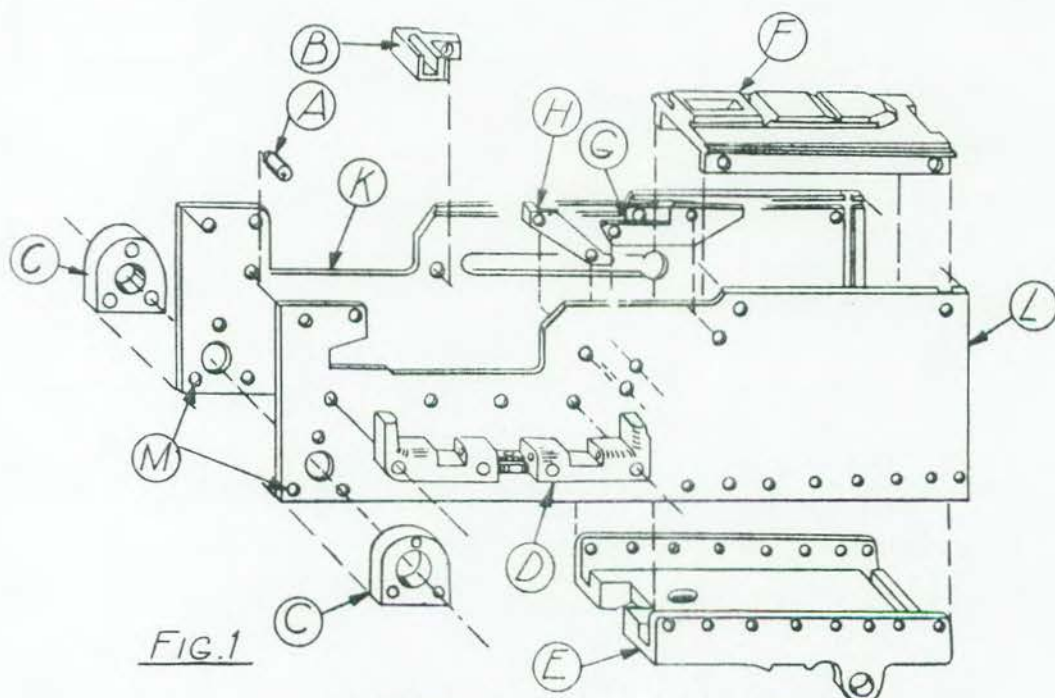

FIG. 1
- (29) ALL PARTS OF THE CASING ARE RIVETED TOGETHER AND MAY BE REPLACED IF NECESSARY. THE PROPER PLACING OF PARTS IS SEEN IN FIG. 1. BOTTOM PLATE (E) IS REMOVED BY TAKING OUT 8 RIVETS ON EACH SIDE. TOP PLATE (F) IS HELD IN PLACE BY ONE LONG RIVET THROUGH FRONT END AND ONE RIVET ON EACH SIDE OF BACK END. TRUNNION ADAPTERS (C) ARE FASTENED WITH TWO RIVETS EACH. NO RIVET IS USED IN HOLE (M) UNTIL THE TRUNNION BLOCK IS PUT ON. CAMS (H) AND (G) ARE SECURED WITH TWO RIVETS EACH.